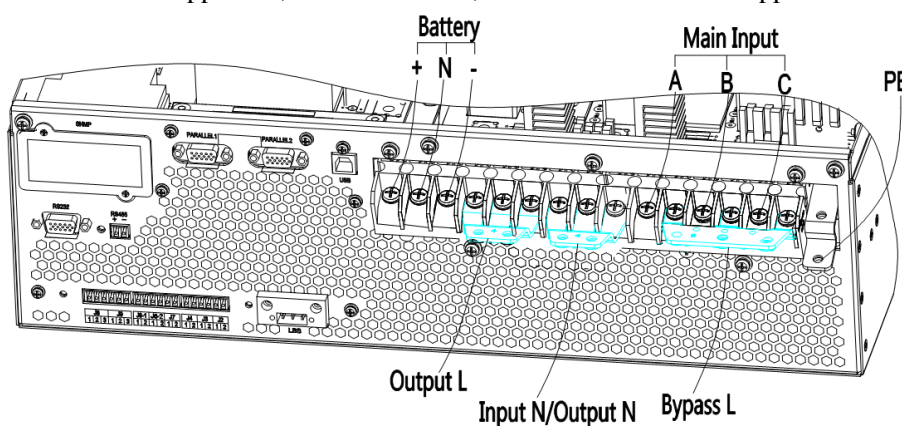

Figure 3-19 3-phase in and 1 phase out, dual input
2. As shown in Figure 3-19, short-circuit bA, bB and bC with No.5 copper bar; short-circuit oN, bN and mN with No.7 copper bar; short-circuit oA, oB and oC with No.4 copper bar.